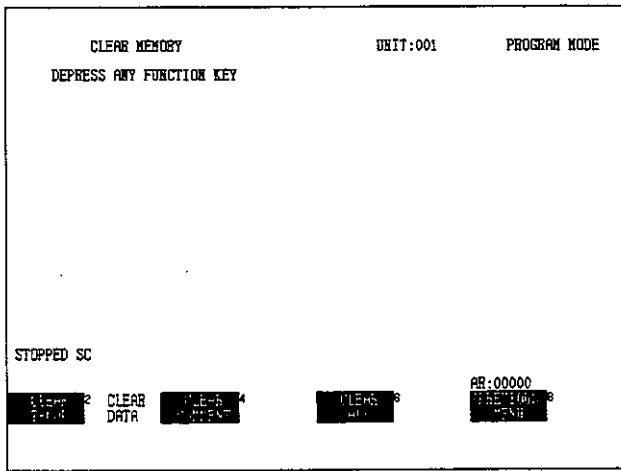

Figure 6.33
- (1) The Attach Operation is not required when the PLC is already online.
- (2) To clear all memories at the same time, select Clear All as shown in *Figure 6.33*.
- (3) Select Confirm and the selected memory will be cleared. If Cancel is selected instead of Confirm, no operation will be carried out and the screen will return to the one from which the Clear request was made.
- (4) See *Appendix A.2 Operational Messages* for information on the messages displayed.